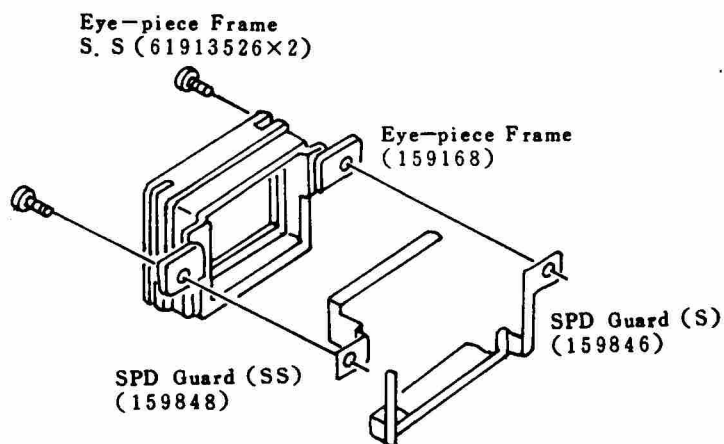

Fig 12
- f) Remove two Eye-piece Frame Set Screws (61913526 × 2), Eye-piece Frame (159168), SPD Guard (SS) (159848) and SPD Guard (S) (159846). (Fig 12)